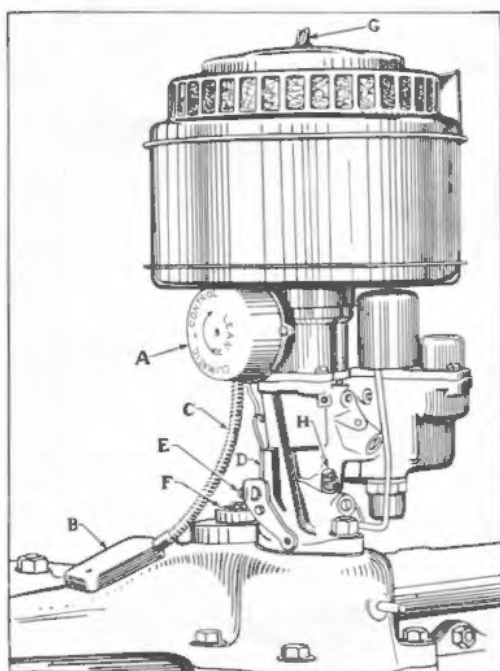

Figure 5
The choke valve, the mechanism for which is contained in the insulated housing (A), Figure 5, is fully closed when the engine is cold at average air temperatures (75° Fahrenheit). Hot air drawn off the exhaust manifold through the stove (B) and tube (C) enters the control housing, giving accurate positioning of the choke for all starting and operating conditions.